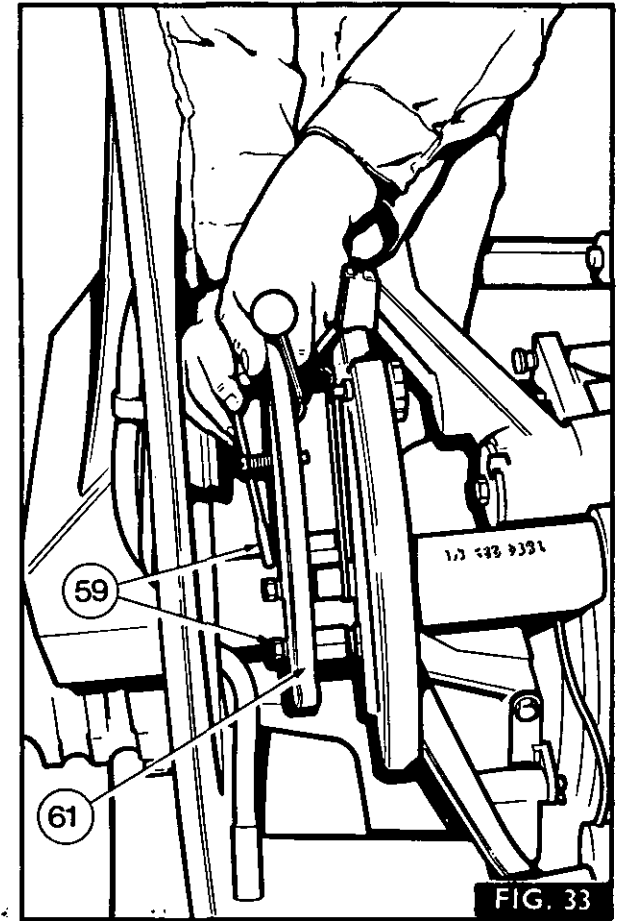

FIG. 33
4. Fig. 33. The Draft Control lever should be in the sector marks on the quadrant, if not, slacken the bolts (59) securing the outer quadrant (61) and rotate the quadrant until the links remain stationary in the horizontal position with the lever in the sector marks.
5. Tighten the quadrant bolts (59) and recheck the setting.